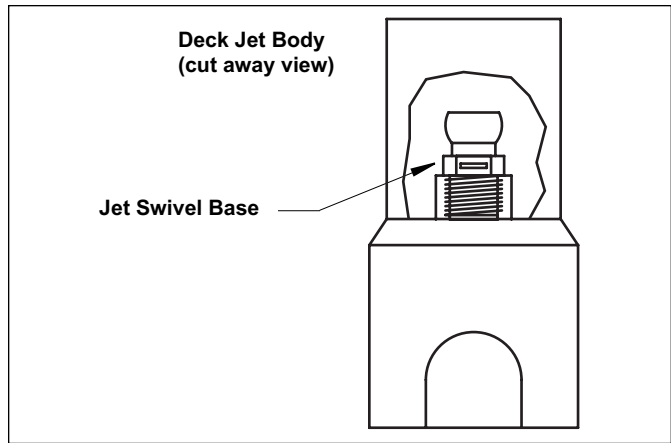

Figure 5. Jet Swivel Base Installation
8. Wrap teflon tape around the Jet Swivel Base threads and install into the Deck Jet Body, using a 7/8", box-end wrench. Tighten the Jet Swivel Base until it is fully seated (see Figure 5).